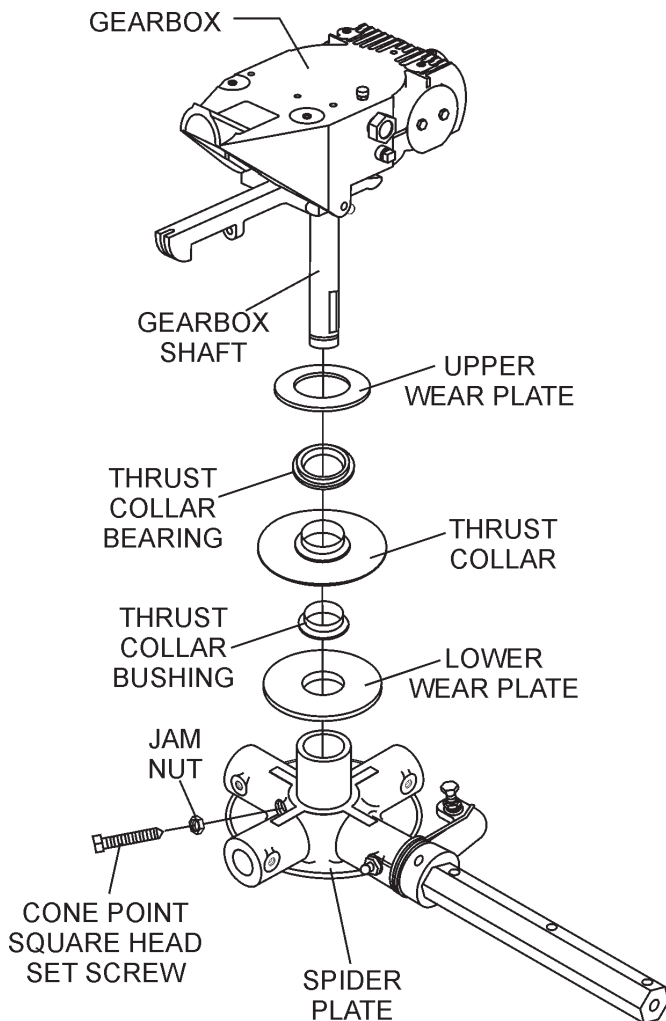

Figure 43. Spider/Gearbox Removal
- a. Locate the cone point square head set screw (Figure 43) and attached jam nut found on the side of the spider assembly.